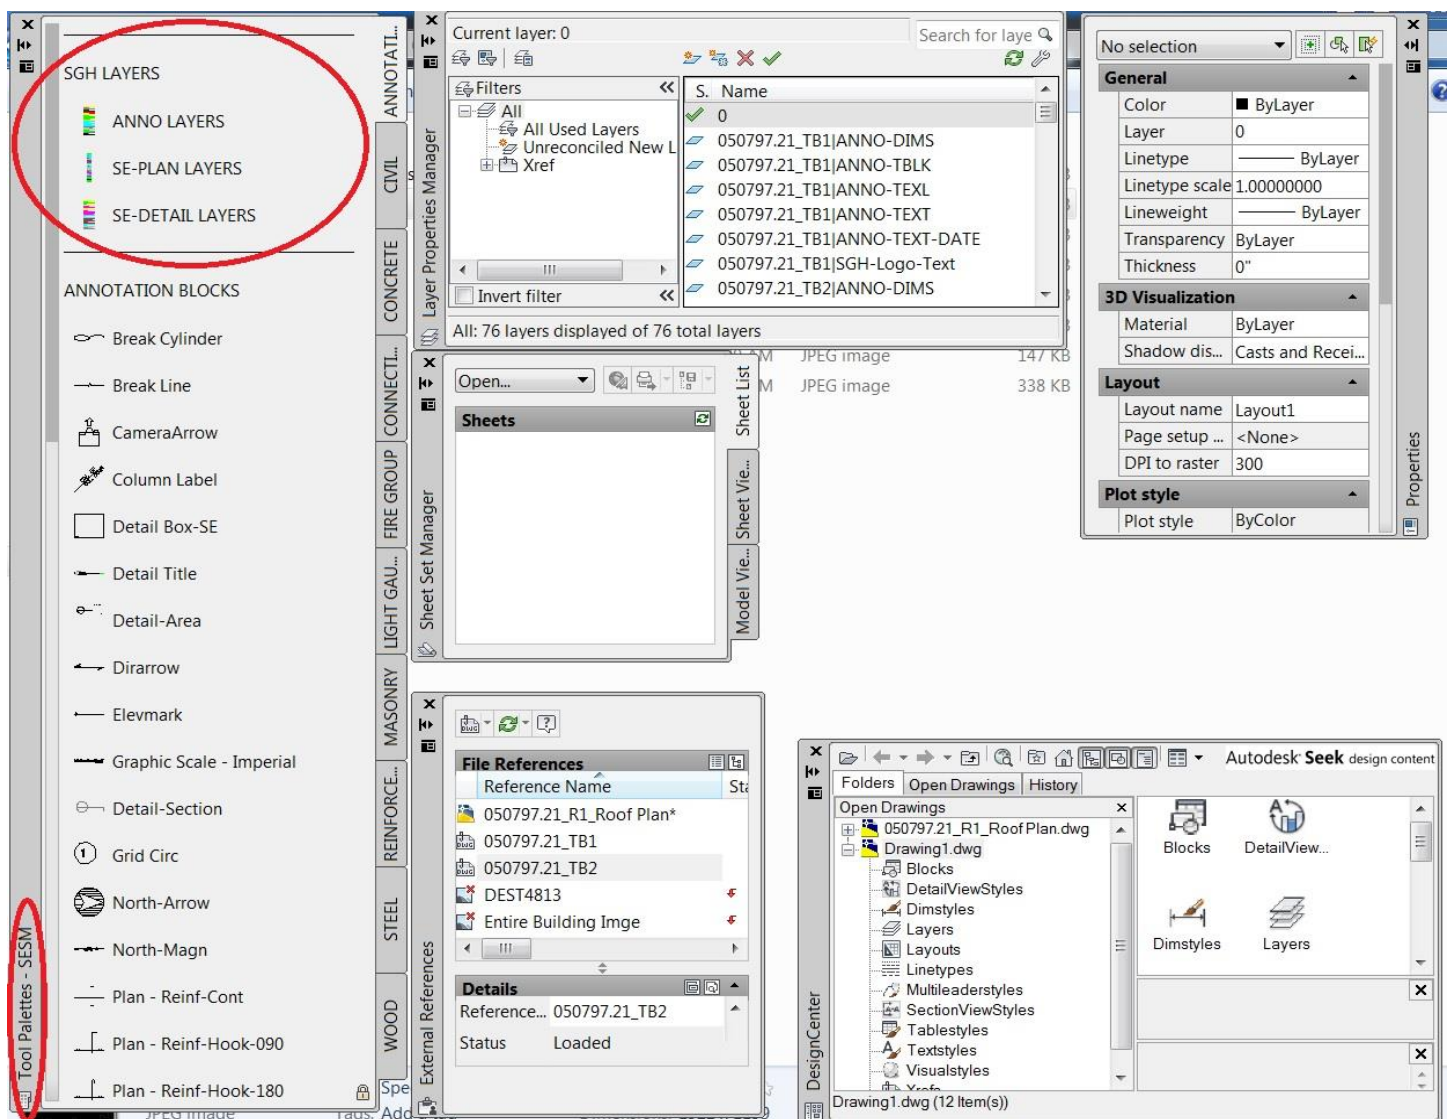
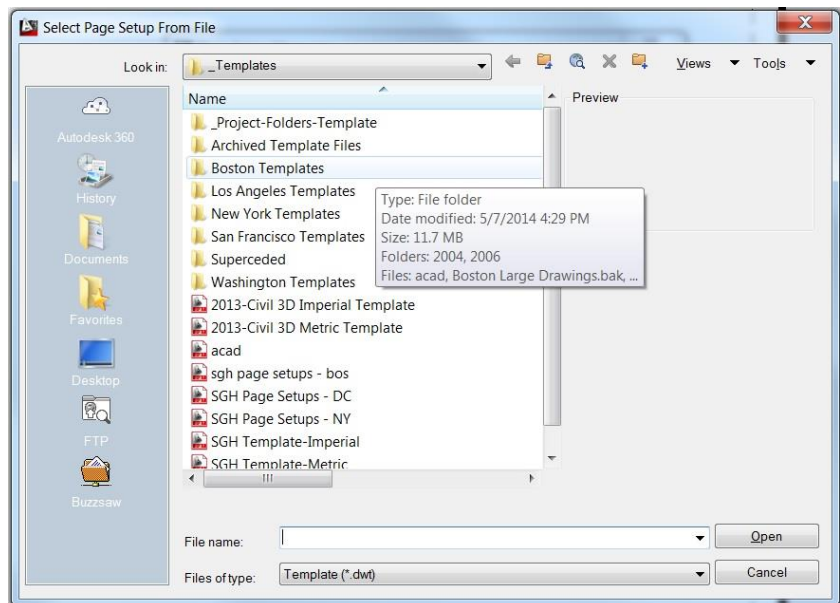

Figure 4
Figure 7 – Select Page Set Up from File
3. The "Select Page Setup From File" dialog box will pop up (Figure 7). **Locate** the location of AutoCAD templates on your computer. Currently, templates can be found at I:\BOS\Drafting Standards_AutoCAD Shared_Templates . Once the location cited above is found, the dialog box should look like the one in Figure 4. In this case, **click Boston Templates**, then, select a template, such as BT-E-Land-42x30_2006. Click **Open**.